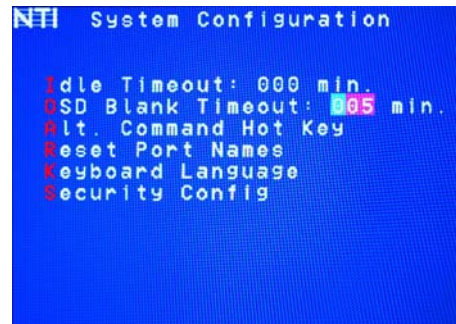

Figure 36- Change the value of OSD Blank Timeout
1. press <O> from the System Configuration menu to display the edit field around the value (see Figure 36)